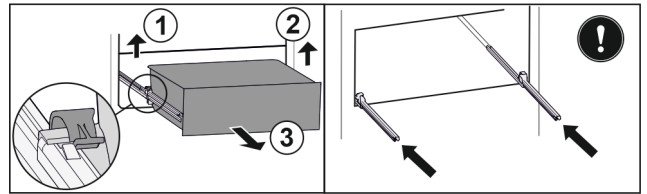

Fig. 102
- Lift left clamp and simultaneously pull drawer forwards on the left. Fig. 102 (1)
- Lift right clamp and simultaneously pull drawer forwards on the right. Fig. 102 (2)
- Remove drawer to the front. Fig. 102 (3)